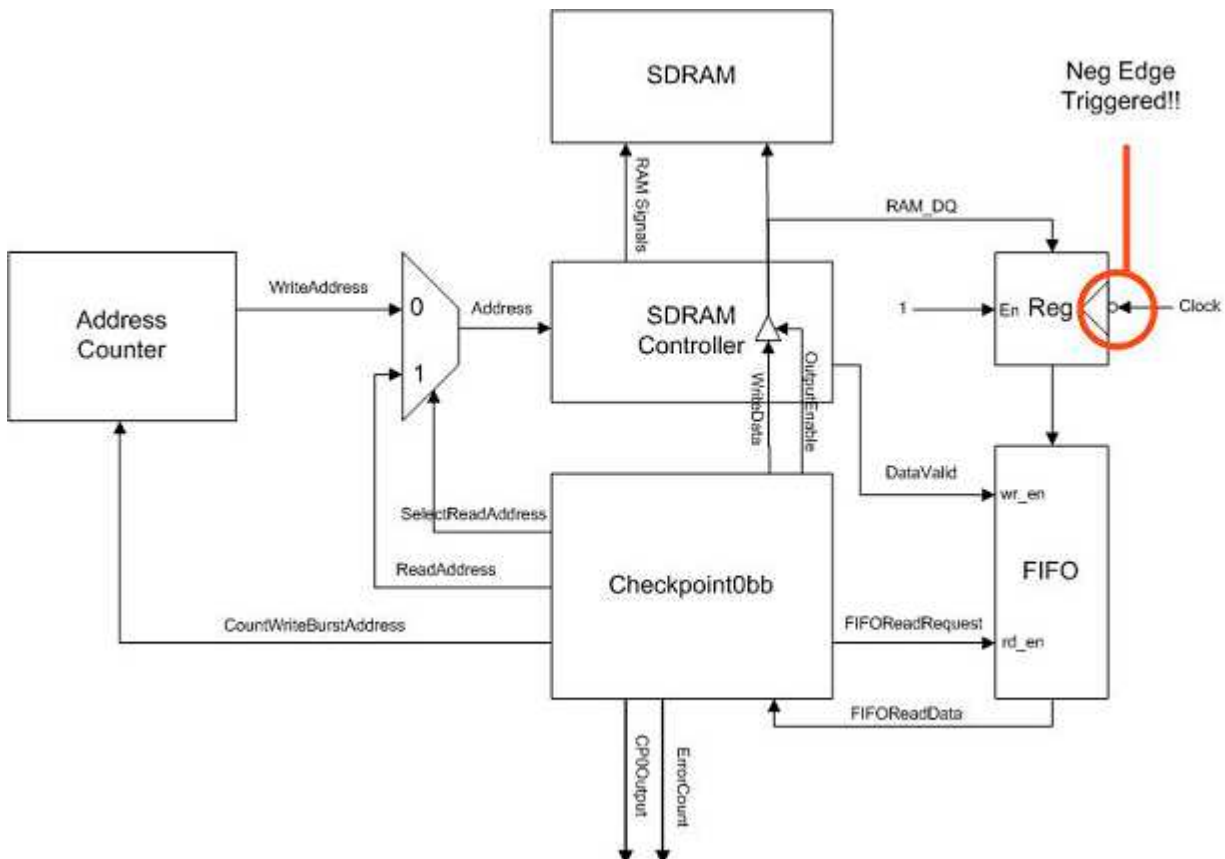

Figure 1: Checkpoint 1 Datapath
Figure 1 below shows the basic datapath you will be implementing for Checkpoint # 1. You will build the SDRAM subsystem that will read and write values we supply into the SDRAM module. The black box provided will calculate whether or not you are storing and retrieving data properly – it will display a count of the times that your data is wrong on the LEDs.
Note the special Tristate buffer shown in figure 1. This is needed because data written to the SDRAM is fed into the same RAM_DQ bus as data coming out of the SDRAM. The output of your controller on the RAM_DQ line should be high impedance (Z) when OutputEnable is not asserted.